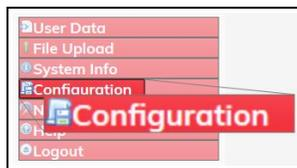

Figure 154: Configuration link
4. On the **Menu** list, click the **Configuration** link. Figure 154